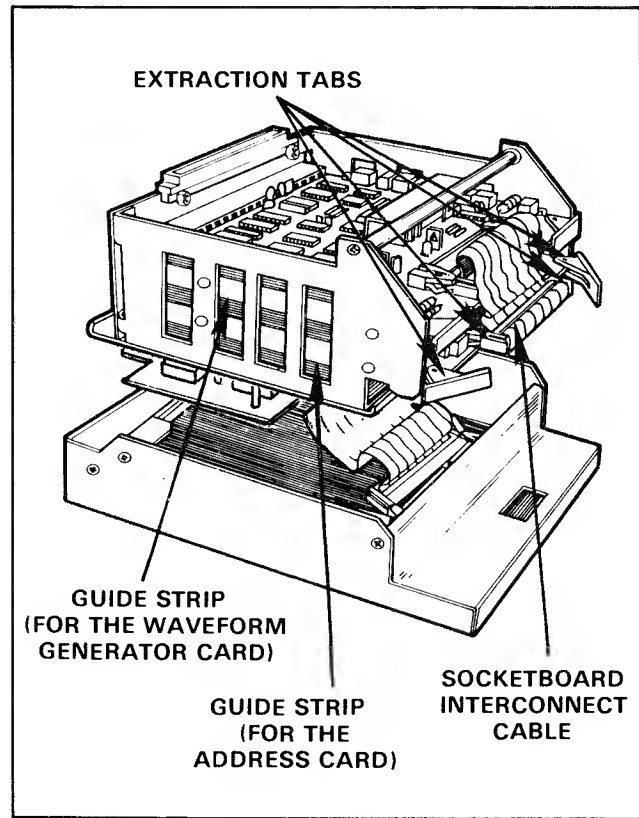

Figure 4-3. Circuit Board Removal
8. Flip the extraction tabs out on the top card (waveform generator card) and unplug the interconnect cable from its connector (figure 4-3).
10. Pull the waveform generator card out along the guides (figure 4-3).